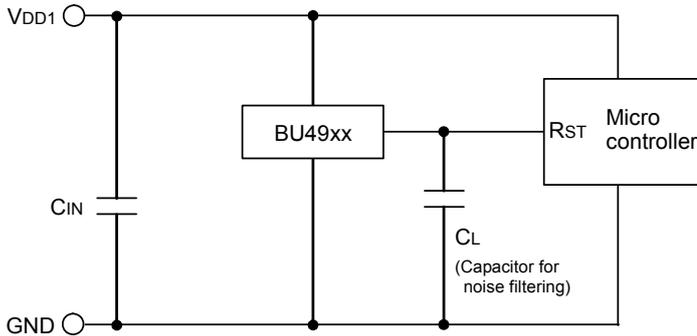

Fig.16 CMOS Output type
CASE2: The power supply of the microcontroller (VDD1) is same as the power supply of the reset detection (VDD1). Use CMOS output type (BU49xx series) or Open Drain Output Type (BU48xx series). Attach a load resistance (RL) between the output and VDD1. (As shown Fig.16)